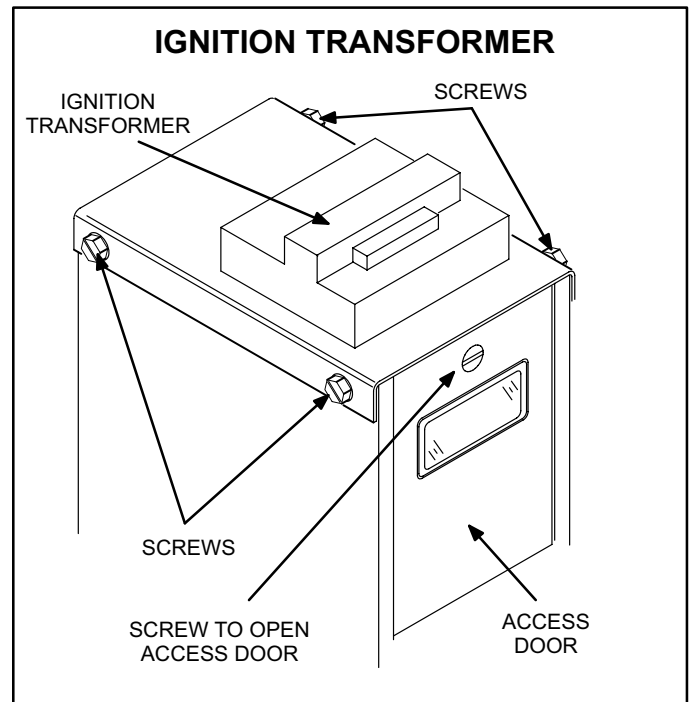

FIGURE 21
1 - Remove all four screws located on the side of the ignition transformer. See figure 21.
- 1 - Loosen the screw to the back access door until door opens. See figures 21 and 22.